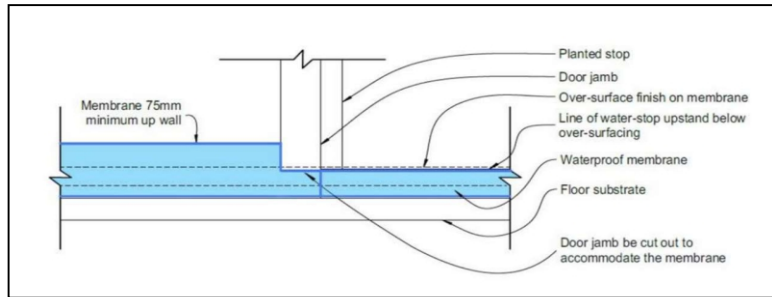

Figure 19: Elevation/edge of door jamb with water-stop under door
- ◆ Figure 19: Elevation/edge of door jamb with water-stop under door